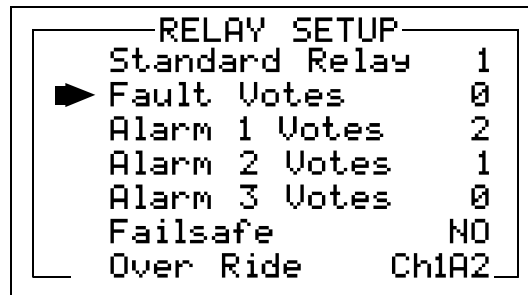

Figure 3.8 – Relay Setup Menu
The menu shown in Figure 3.8 allows for configuring of both the standard **Relay 1** and **Relay 2** motherboard relays and the six optional relays on the discrete relay option PCB (P/N 5700-0015). Both standard and optional relays are programmed in this menu. Select the relay to be configured by pointing the arrow at the top menu item and pressing EDIT. The field will scroll through all eight possible relays (2 standard and 6 optional).
- **Fault, Alarm 1, Alarm 2, Alarm 3** menus in Figure 3.8 offer additional “voting” flexibility by controlling the channel alarm combinations that will trip the selected relay. Each *Votes* entry requires this quantity of channels, for each type alarm, be active before this relay is activated. As illustrated in Figure 3.8, Standard Relay 1 activates when any 2 channels have Alarm 1 conditions, while in addition, any one channel has an Alarm 2 condition. And since the **Over Ride** menu (see description below) contains the **Ch1A2** entry Standard Relay 1 also activates if alarm 2 on channel 1 trips. Fault Votes and Alarm 3 Votes values are 0, therefore Fault and Alarm 3 conditions will not affect this relay. Votes follow the logical “AND” function.